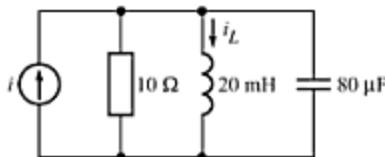

Fig. C-56
- C-86. The current source  $i = 4\sqrt{2} \sin(400t - 10^\circ) \text{ A}$  in Fig. C-56. Use current division concept to find current  $i_L$  in the inductor for the circuit.